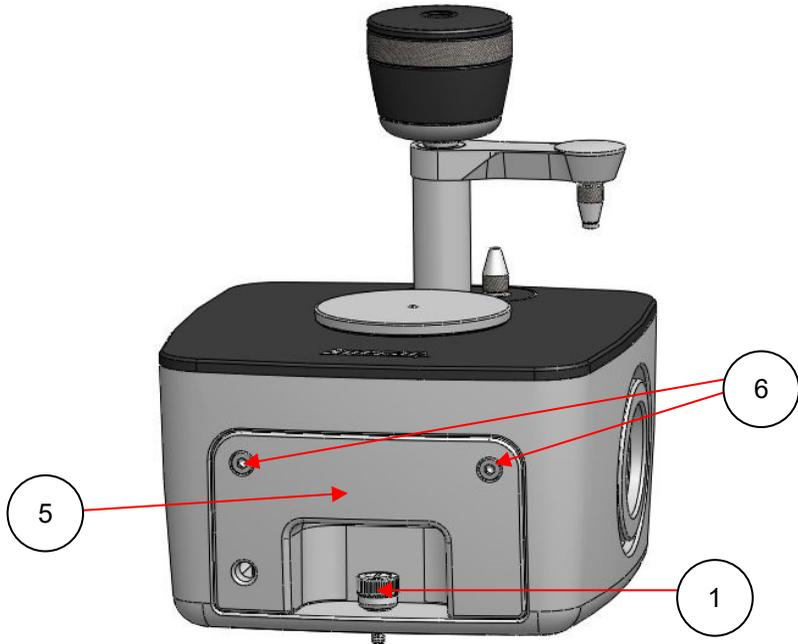

Figure 6-1: Quest ATR - Front Cover Plate Removal
- 5) Front cover plate of optical unit (Figure 6-1).
- 6) Captive screw of front cover plate (Figure 6-1).
The optical unit front cover plate (5) is removed by undoing the two captive cover plate screws (6) (see Figure 6-1) using the 3 mm ball driver supplied. The front cover plate (5) is pulled up and forward over the fixing thumb screw (1) to gain access to the internal mirrors.